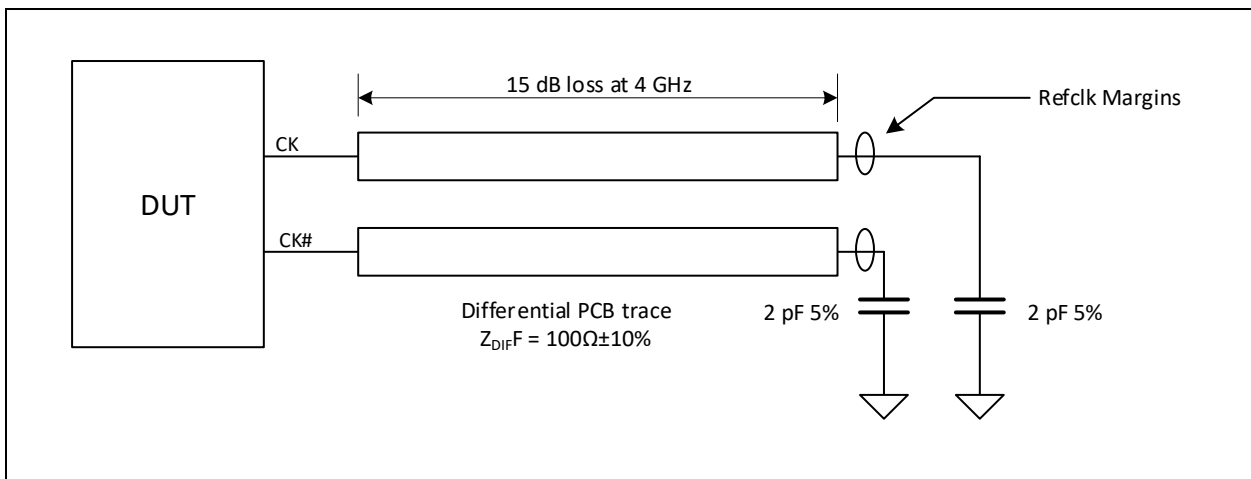

Figure 20. PCIe Test Circuit
PCIe measurement are related only to ZL40293 device. Test setup is shown Figure 20.
1. Measured into AC test load as per Figure 20 .